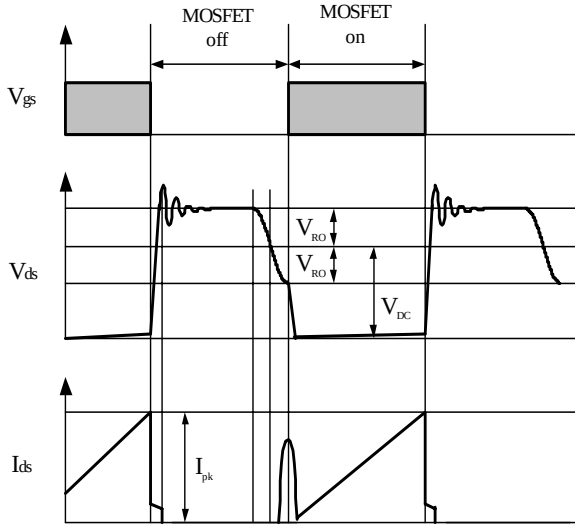
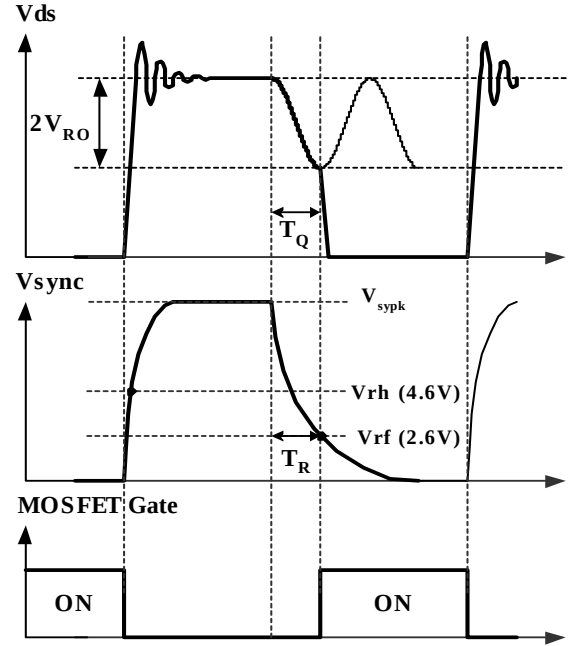

Figure 4. Quasi-resonant operation waveforms
Figure 5. Normal quasi-resonant operation waveforms
1. Startup : Figure 4 shows the typical startup circuit and transformer auxiliary winding for FSCQ1565RP application. Before FSCQ1565RP begins switching, FSCQ1565RP consumes only startup current (typically 25uA) and the current supplied from the AC line charges the external capacitor (C_{a1}) that is connected to the V_{cc} pin. When V_{cc} reaches start voltage of 15V (V_{start}), FSCQ1565RP begins switching, and the current consumed by FSCQ1565RP increases to 4mA. Then, FSCQ1565RP continues its normal switching operation and the power required for this device is supplied from the transformer auxiliary winding, unless V_{cc} drops below the stop voltage of 9V (V_{stop}). To guarantee the stable operation of the control IC, V_{cc} has under voltage lockout (UVLO) with 6V hysteresis. Figure 5 shows the relation between the FSCQ1565RP operating supply current and the supply voltage (V_{cc}).